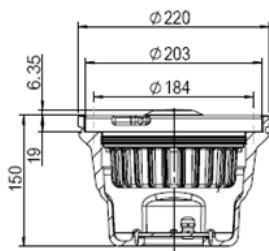

Figure 3-1
- Directly installed on the 8” shallow base (Figure 3-1).